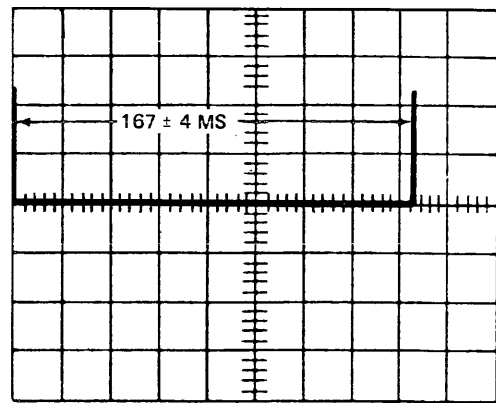

Figure 1-8. Index Pulse Period
- d. Set oscilloscope as follows, to monitor INDEX pulse period, as shown in Figure 1-8.
- e. Observe INDEX pulse period of 167 ± 4 milliseconds, as shown in Figure 1-8.
- i. Perform Index Pulse Detector Alignment procedure if INDEX pulse does not occur as shown in Figures 1-8 and 1-9.